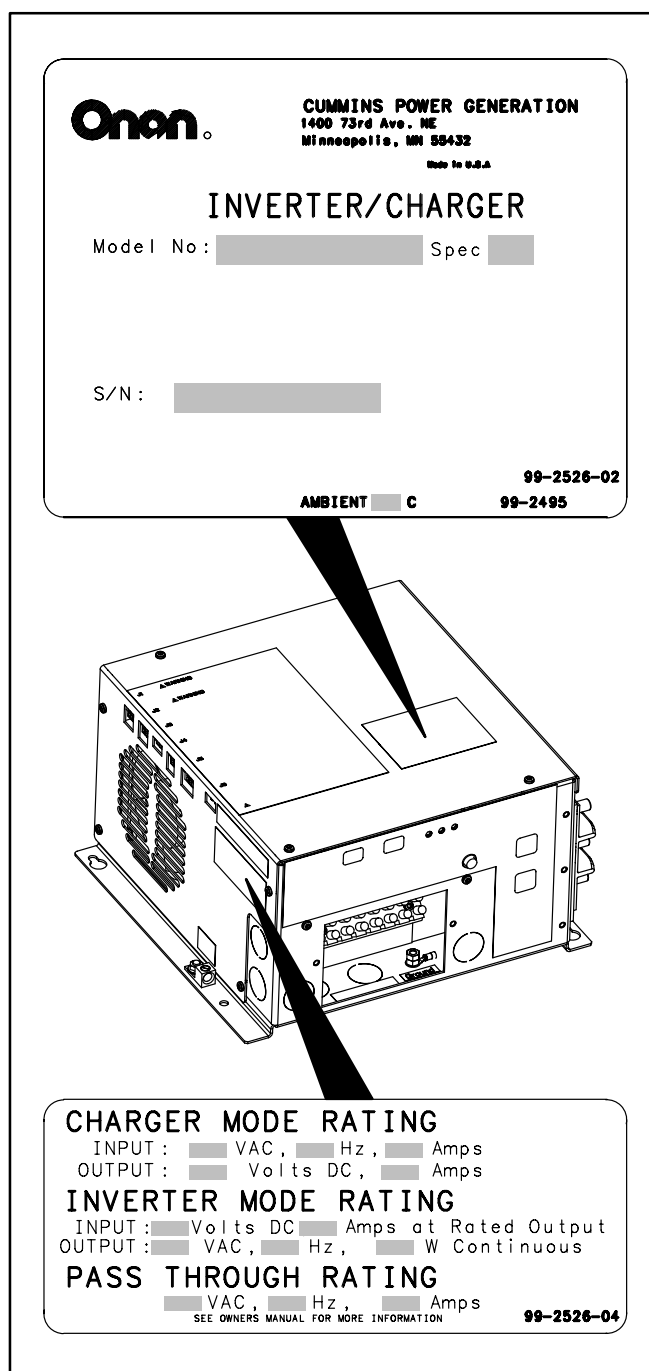

FIGURE 1-1. NAME AND RATING LABELS
The name and rating labels are located on the top and side of the Inverter-Charger (Figure 1-1).
1. *Model Number, including Spec Letter, and Serial Number (gray boxes in Figure 1-1)*